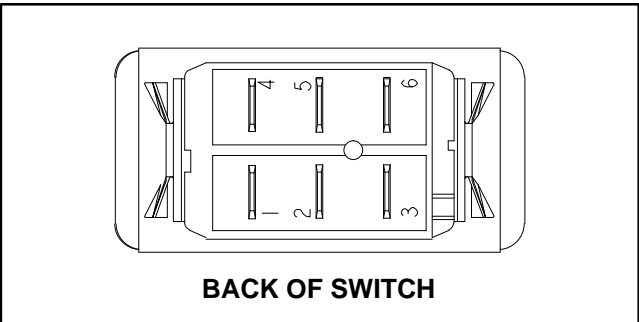

Figure 43
4. The air conditioning switch terminals are identified in Figure 43 and the switch circuits are shown in Figure 44. With the use of a multimeter (ohms setting), the switch functions may be tested to determine whether continuity exists between the various terminals for each switch position. Verify continuity between switch terminals.